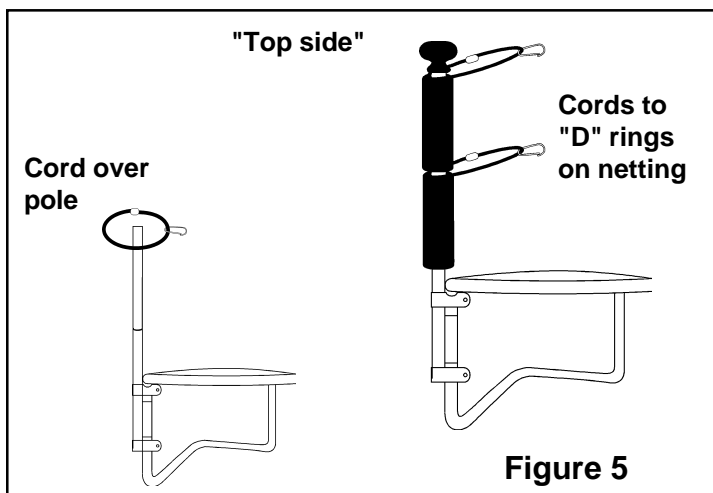

Figure 5
Place the FUNRING netting on the trampoline mat (bed). The entry place ("door") should be positioned where you normally access the trampoline. The "D" rings on the vertical seams should be placed next to each pole. The edge with the orange stripe is the "top side" (see Figure 5). **The foam sleeves and pole caps are two different colors (blue & green). You can mix and match to customize a color scheme. Normally you would have a blue pole followed by a green pole.**
At each pole slide a foam sleeve over the pole. Then place a suspension cord over the pole (see Figure 5) and attach the snap clip to the "D" ring in the middle of the FUNRING netting. The cord will go completely around the pole, between the foam sleeve sections, and then to the "D" ring (you will have to use the ladder to "drop" the strap over the pole).
Add the last foam sleeve at each pole followed by a another suspension cord attached to the adjacent "D" ring on the top of the FUNRING netting. On each pole you should have two (2) foam sleeves and two (2) suspension cords (see Figure 5).